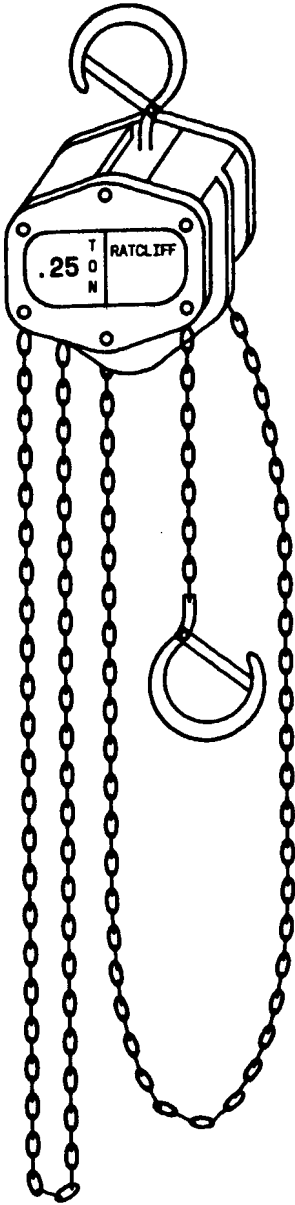

Fig. 2—RATCLIFF H-80-1/4 Ton Hoist
**2.03 ♦“RATCLIFF” H-80-1/4:** The RATCLIFF H-80-1/4 ton hoist (Fig. 2) consists essentially of a welded link operating chain, a steel housing containing a double reeved load sheave, ratchets, pawls, and a top swivel safety hook, together with a welded link chain terminating in a swivel load safety hook. A lever on one side of the hoist housing controls the direction of travel of the chain, when under load, as well as free running of the chain in either direction under no load.♦